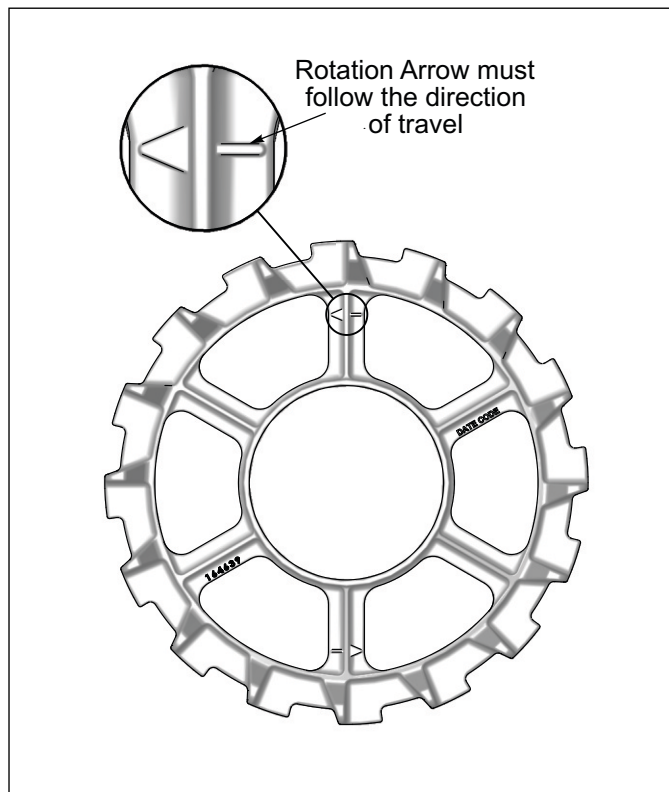

Figure 2-15: Crowfoot Wheel Rotation Arrow
1. Roller Assemblies are pre-assembled from the factory with stub shafts, bearings, shims, and retaining washers. **NOTE:** *Crowfoot Wheel Rotation Arrow must follow the direction of travel.* See **Figure 2-15.**